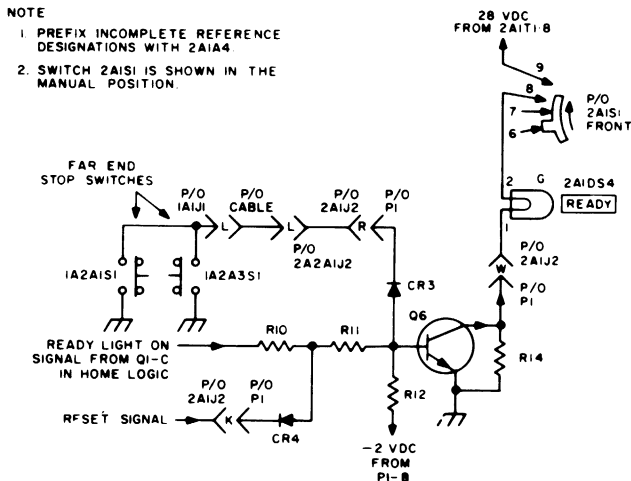

Figure 4.16. Ready Light Logic, Simplified Schematic Diagram
4.2.9.7 Ready Light Logic. The ready light logic (figure 4.16) consists of driver Q6, and various diode gate and switching circuits. The function of these circuits is to light READY indicator 2A1DS4 when the tuning cycle has been completed. These circuits are operational only in the automatic mode.